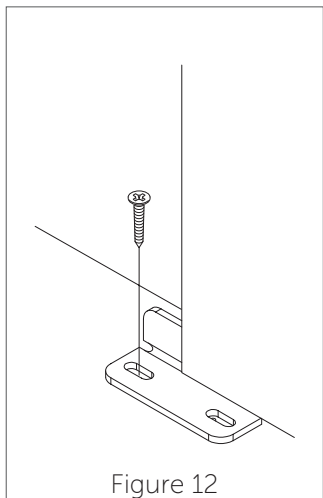

Figure 12
15. Position the Door Guide (I) part way into the groove in the bottom of the door. (Figure 12). Install the Door Guide using a 1" Phillips screw (G) and a drill with a Phillips bit.